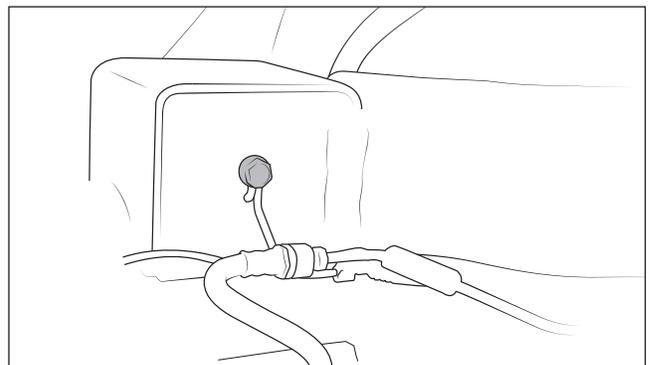

Figure 37
11. Remove the left side brake line bolt at the axle (fig. 37).